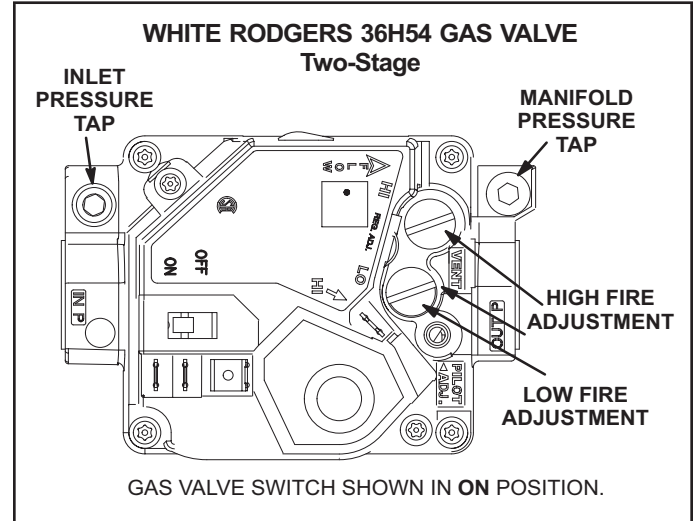
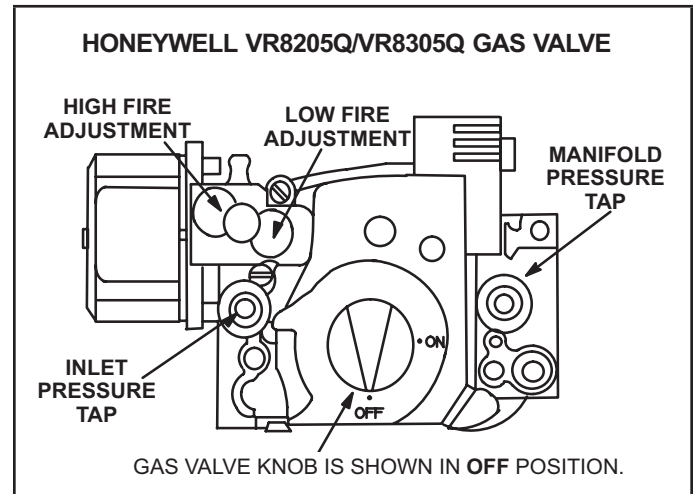

FIGURE 31
FIGURE 32
Gas Valve Operation for Honeywell VR8205Q/VR8305Q and White Rodgers 36H54 (FIGURE 31 and FIGURE 32).
- 6 - Turn gas valve switch to **OFF**. See FIGURE 31. On Honeywell VR8305Q gas valves, turn the knob on the gas valve clockwise to **OFF**. Do not force. See FIGURE 32.
- 7 - Wait five (5) minutes to clear out any gas. If you then smell gas, **STOP!** Immediately call your gas supplier from a neighbor's phone. Follow the gas supplier's instructions. If you do not smell gas, go to the next step.
- 8 - Turn gas valve switch to **ON**. See FIGURE 31. On Honeywell VR8305Q gas valves, turn the knob on the gas valve counterclockwise to **ON**. Do not force. See FIGURE 32.